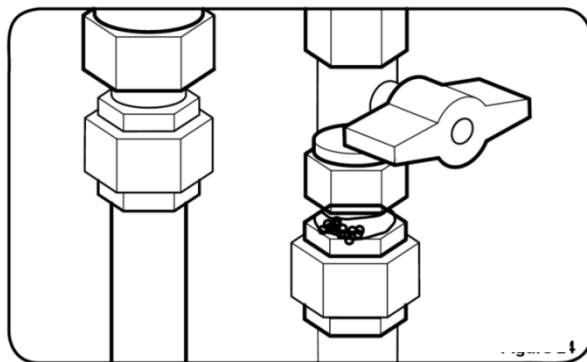

Figure17
- Use soapy water to test for leakage at all gas connections and fittings. If bubbles are seen, it indicates there is a leak and **MUST** be rectified – see Figure 17.